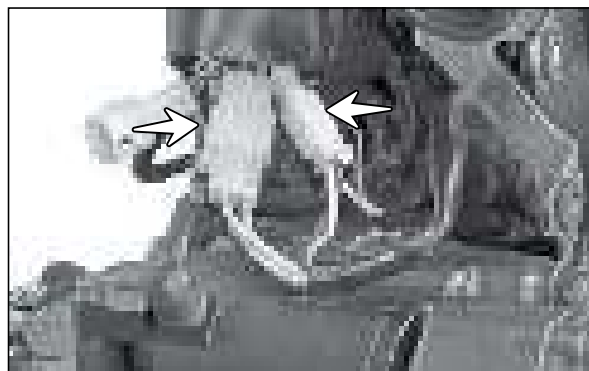

Fig. 3.114
- Disconnect all the wiring sockets from magneto assembly connected to wiring harness. (Fig. 3.114)